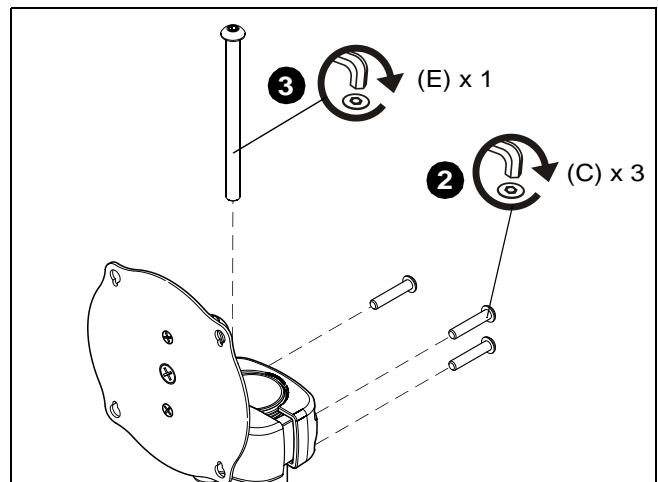

Figure 3
2. Remove three fasteners from rear pole clamp and replace with three 1/4-20 x 1-1/4" button head security screws (C). (See Figure 3)
3. Remove 4-1/2" fastener from pole mount clamp and replace with one 5/16-18 x 4-1/2" button head security screw (E). (See Figure 3)